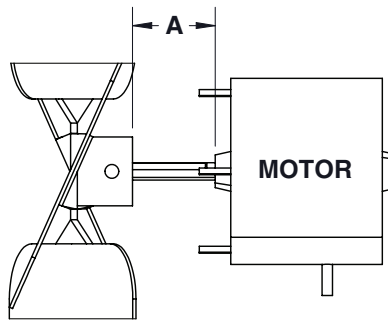

Figure 9. Fan and Motor Spacing (Refer to Table 7)
6. Ensure that fan is in proper position on shaft (see Figure 9) and setscrew is tightened in accordance with torque listed in Table 7.
*See Figure 9.